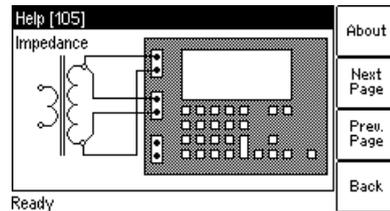

Figure 9-13 Wiring example for resistance measurement
1. Connect the "Output" sockets and input "Sec" of the *CT Analyzer* to the winding to be measured (see Figure 9-13).